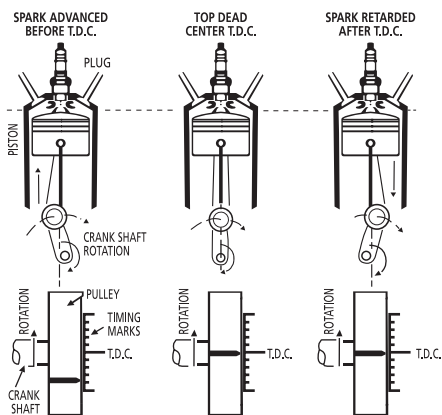

FIGURE 1.
Timing is given in degrees Before Top Dead Center (BTDC) or After Top Dead Center (ATDC) in the manufacturer's specifications. In order to completely burn the air/fuel mixture in the car's engine cylinders, most timing is such that the spark occurs at a point several degrees before top dead center (for example, 4° BTDC) to assure that full power of the explosion is obtained. See Figure 1.
Two additional terms the engine manufacturers use when describing timing are "Advanced" and "Retarded". As shown in Figure 1, when the timing is advanced the spark will occur before the piston reaches the top of the engine cylinder (BTDC).
In order to allow setting and adjustment of the engine timing, special "Timing Marks" are provided on each engine during assembly. In most cases, these marks appear on the engine vibration damper or fan pulley at the lower front of the engine. See Figure 1.
1. Locate engine timing mark (see figure 1) and use a rag to clean all grease and dirt from the mark and the pointer. It may help to use chalk or white paint on the marks to make them more easily seen.